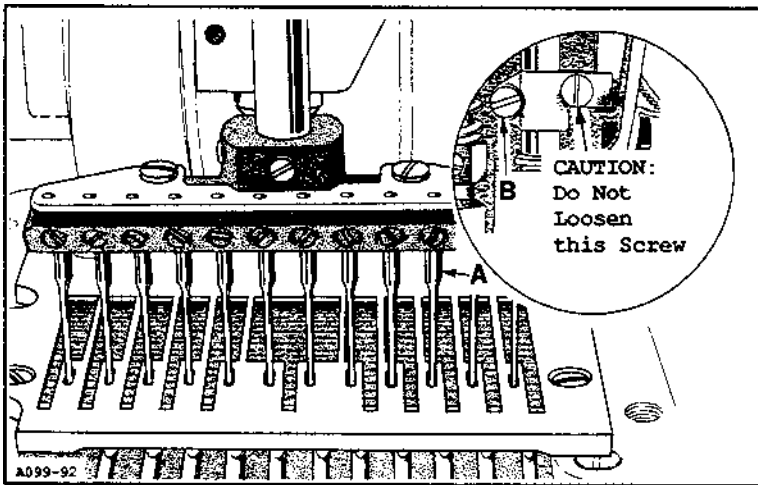

Fig. 2
Insert a new set of needles, type and size as specified in the description of the machine. Needles must be inserted with the spot or scarf to the left. Turn the handwheel in operating direction to bring needles (A, Fig. 2) down to ensure that they are aligned in the needle slots of the throat plate as shown. Adjustment can be made by loosening clamp screw (B, Fig. 2 Inset) slightly, allowing needle bar (A) to be turned as required. Tighten clamp screw (B).